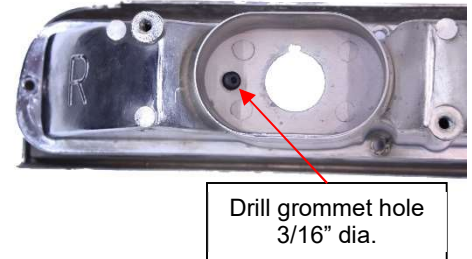

Figure 1
2. OPTIONAL: If sequential patterns are desired, drill 2 – 3/16" diameter holes in the outboard side of the outboard light cell's bulb sockets and deburr hole. The exact location of this hole is not critical. Then install provided rubber grommet into the drilled hole. One method to simplify installation is to pinch grommet, insert protruding edge into the hole, then use a small flat blade screwdriver to push/work the remaining edge through the hole. (See Figure 1)